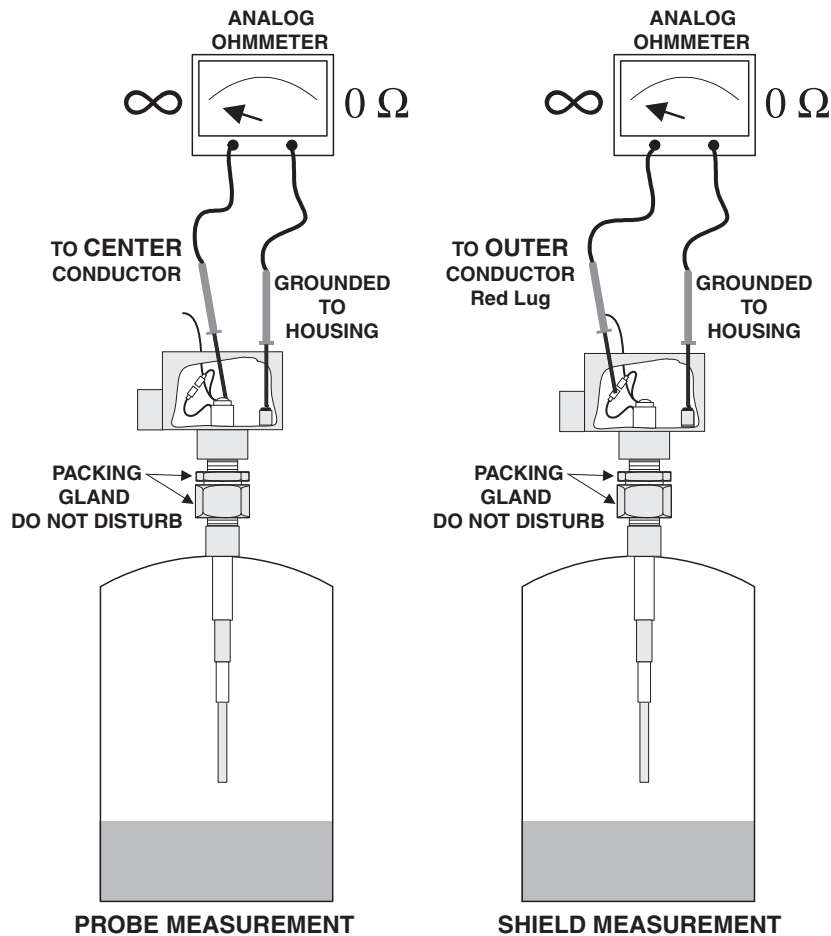

Figure 5-3
2. Using an ohmmeter measure the resistances as **shown in Figure 5-3**.